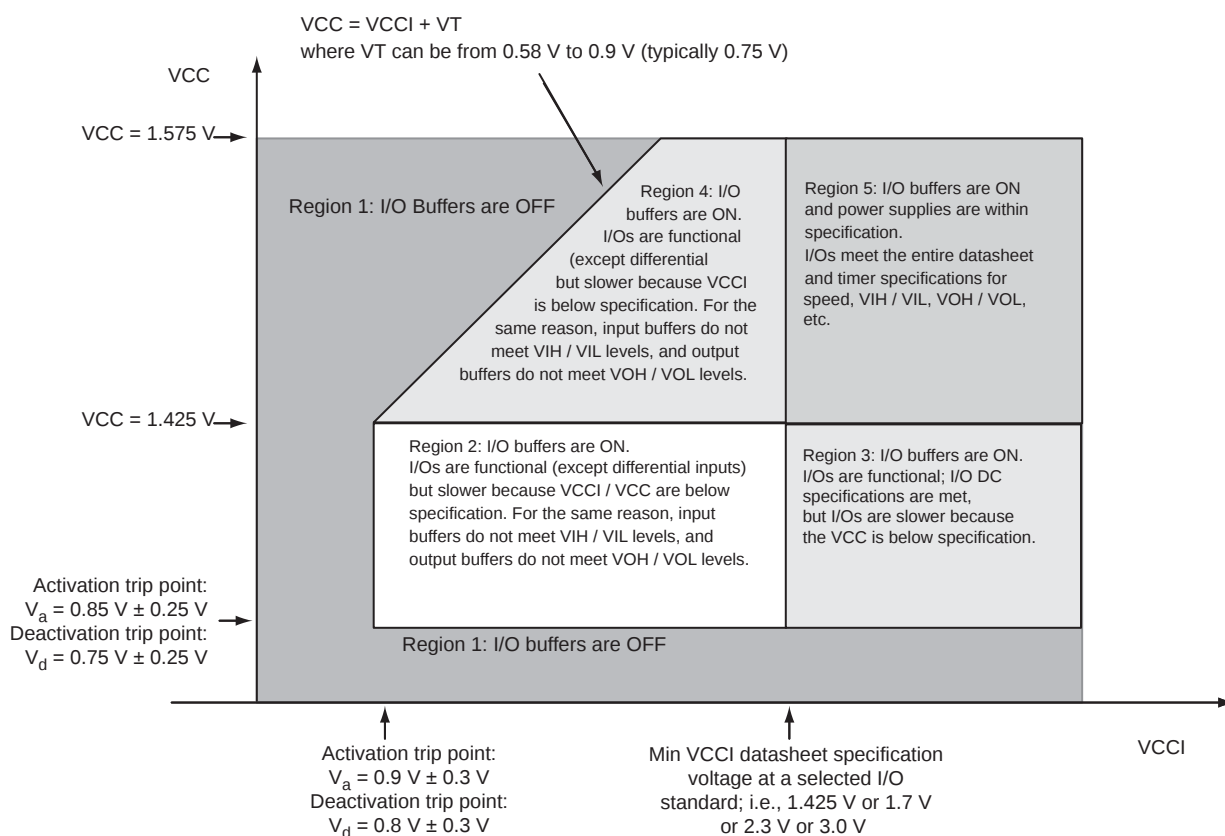
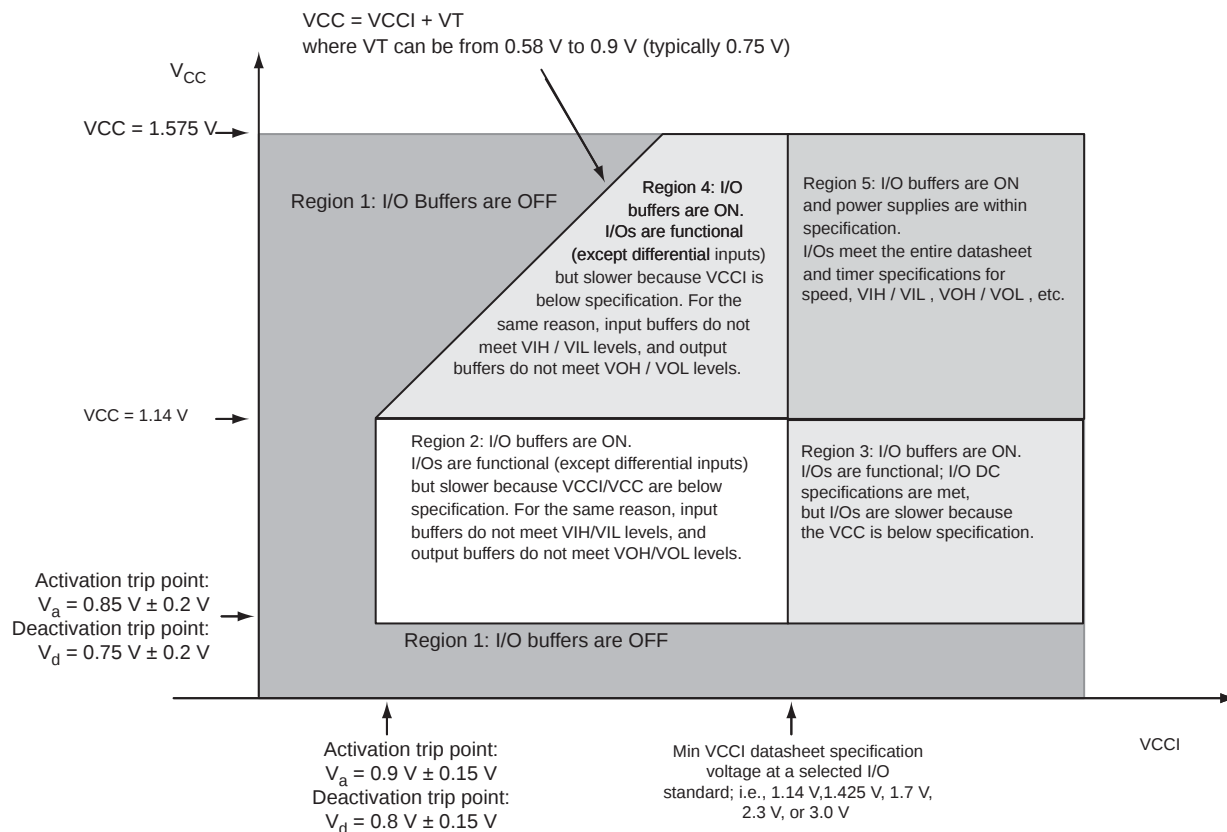

Figure 2-1 • V5 Devices – I/O State as a Function of VCCI and VCC Voltage Levels
Figure 2-2 • V2 Devices – I/O State as a Function of V_{CCI} and V_{CC} Voltage Levels
Sophisticated power-up management circuitry is designed into every ProASIC3 device. These circuits ensure easy transition from the powered-off state to the powered-up state of the device. The many different supplies can power up in any sequence with minimized current spikes or surges. In addition, the I/O will be in a known state through the power-up sequence. The basic principle is shown in Figure 2-1 on page 2-4 and Figure 2-2 on page 2-5.
1. VCC and VCCI are above the minimum specified trip points (Figure 2-1 on page 2-4 and Figure 2-2 on page 2-5).
Actel recommends using monotonic power supplies or voltage regulators to ensure proper powerup behavior. Power ramp-up should be monotonic at least until VCC and VCCPLX exceed brownout activation levels. The VCC activation level is specified as 1.1 V worst-case (see Figure 2-1 and Figure 2-2 on page 2-5 for more details).